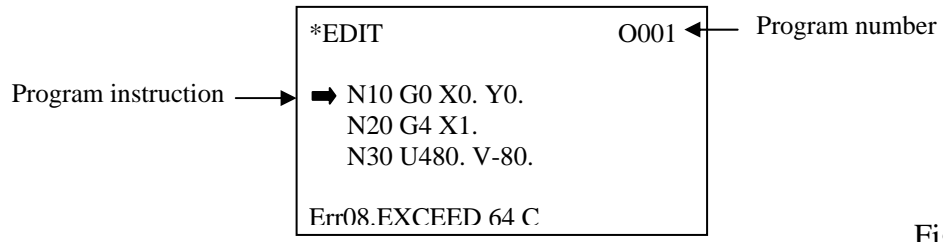

Fig 6.9
4. Do not exceed 64 bytes of data input for a single block. Otherwise, the CNC controller will show an error message at the bottom of screen as in Fig 6.9